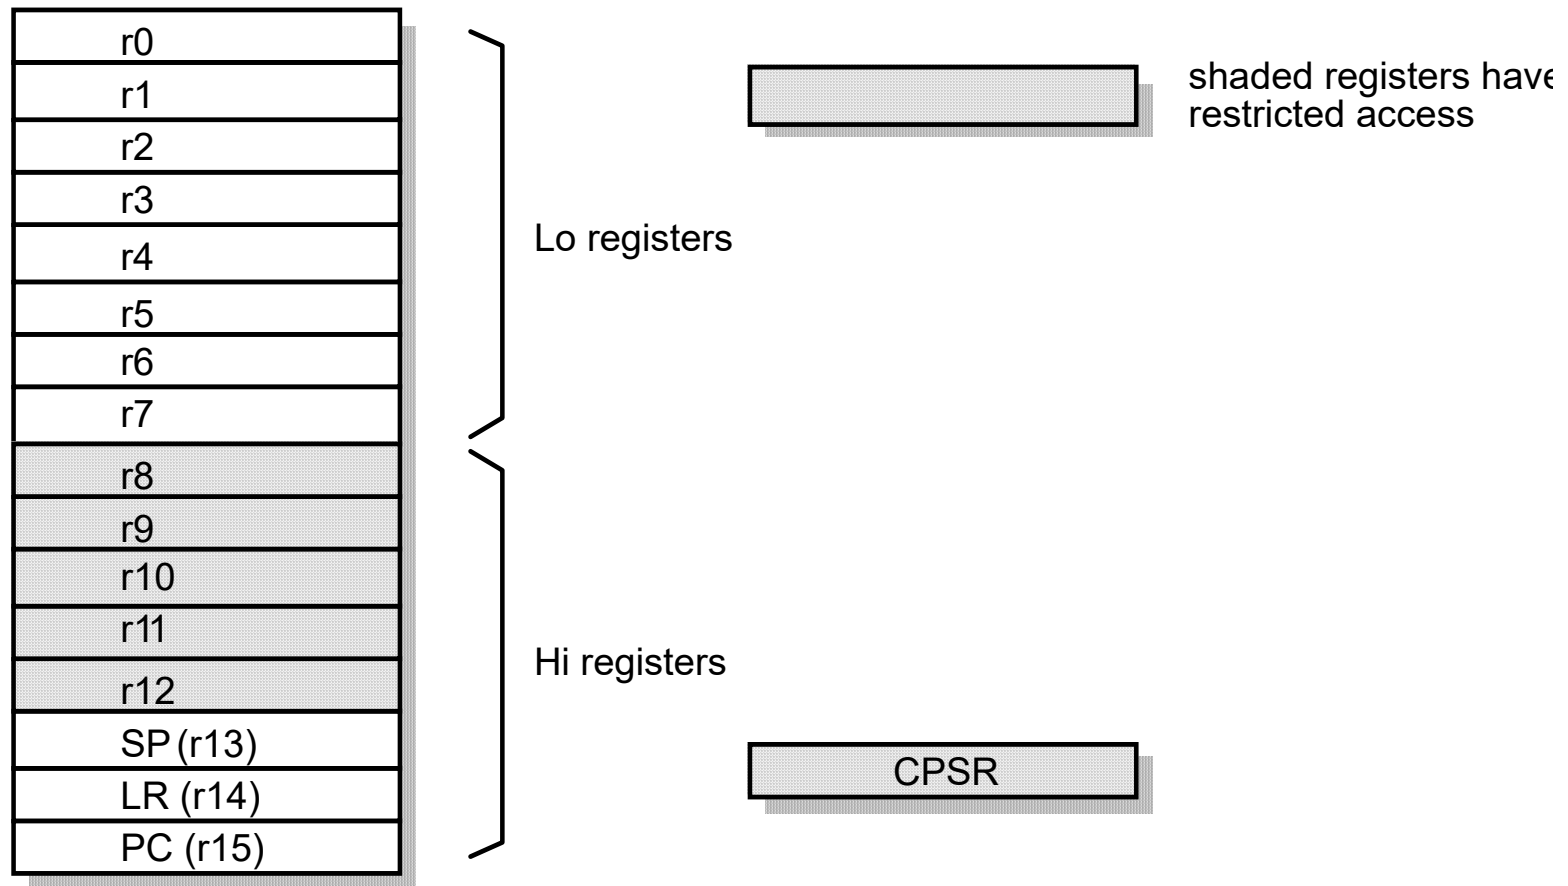

Fig. 7.1 Thumb accessible registers
- ◆ The programmer's model is illustrated in Fig. 7.1
- **r15**: program counter (PC)